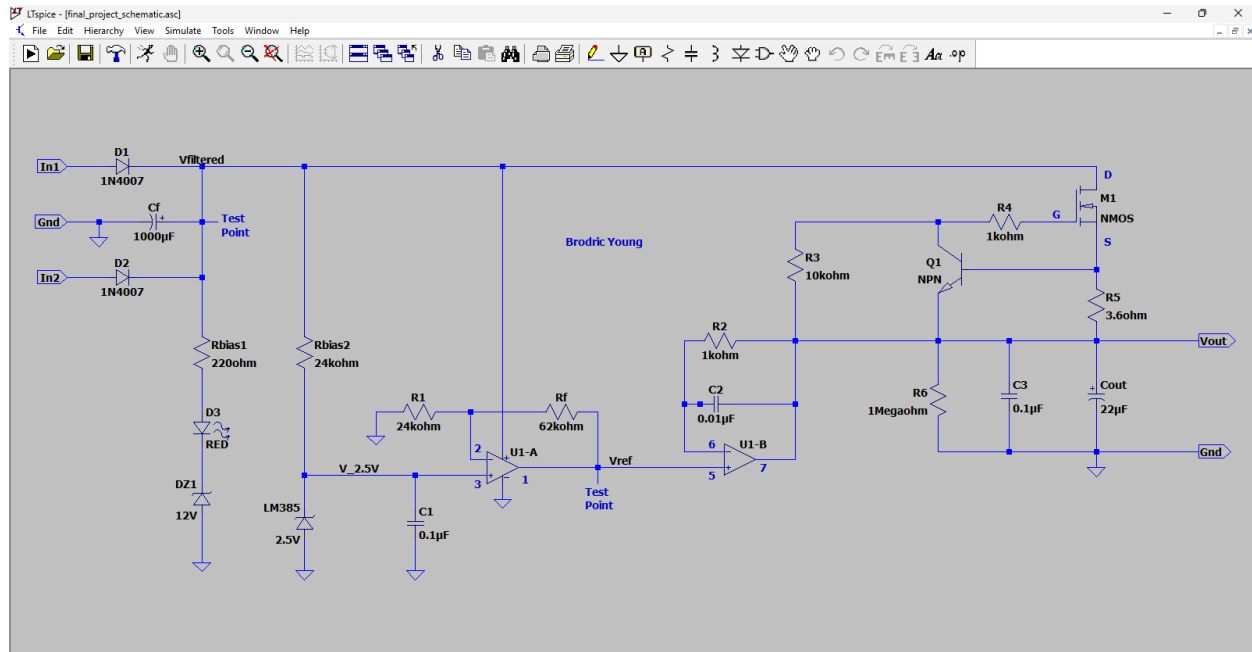

Figure 4: Schematic Diagram of the DC Output Power Supply.
2. Put together an overall LTspice schematic like the one shown below in **Figure 4**, with component values for R_5 , R_{bias2} , R_1 , R_f and C_f to be determined.
An ideal voltage source provides a specific output voltage regardless of what is connected to the output terminals. Practical voltage sources often include built-in current limits to protect components from overheating during accidental load faults. Practical DC voltage sources are also called voltage regulators and approximate an ideal voltage source by maintaining a constant output voltage over a wide range of load current values. The ECEN 350 power supply project implements a voltage regulator by means of an n-channel enhancement mode MOSFET transistor and current limit. While many existing IC (Integrated Circuit) voltage regulators exist, constructing one from basic building blocks provides insights into the design and construction of these circuits. **Figure 4** below illustrates the complete schematic of the DC Output Power Supply Project. You need to include your version of the **Figure 4** schematic in your project report. **You don't need to include the test points, op-amp pin numbers, or Drain, Gate and Source labels shown in Figure 4 for your power supply schematic but do need to include your name on your overall LTspice schematic of your DC Output Power supply included in your final report, using the Text option available in the Edit pull-down menu.**
Referring to **Figure 4**, the inputs **In1**, **In2** and **Gnd** are to be connected to either an AC or DC voltage source to power the overall circuit. The output voltage **V_{out}** is the regulated DC output voltage to which external loads are to be attached. The **V_{ref}** voltage is derived from the constant 2.5 V across the LM385 Voltage Reference diode, shown in the figure below. While the LM385 2.5 V voltage reference is shown as a Zener diode, the LM385 actually consists of several transistors and provides a more accurate reference voltage than can be obtained from a simple Zener diode. Dual op-amp consists of op-amp U1-A, used in the
Since the output voltage of the voltage regulator illustrated in **Figure 4**, can only source current to the load, resistor R6 is included to sink the small leakage currents from M1, that otherwise could cause the output voltage to increase beyond the desired output voltage when not connected to an external load.
The voltage reference portion of the power supply illustrated in **Figure 4** consists of an LM385-2.5, 2.5 V voltage regulator along with bias resistor R_{bias2}. This resistor should be chosen to provide a reverse breakdown current through the LM385-2.5 voltage regulator ranging from 100 μ A to 1 mA. For this power supply, assume that the input voltage range for proper operation is 12 to 21 V. Hence, you can determine an acceptable resistance range for R_{bias2} and then choose an appropriate standard 5% resistor within that range. For the DC Output Power Supply Calculations Summary you are to calculate the maximum I_{Rbias2} value corresponding to your chosen R_{bias2} value.
Referring to **Figure 4**, components R_{bias1}, D3, along with Zener diode DZ1 comprise the red LED power on indicator. This power indicator provides a visual indication of when the input voltage is sufficient to turn on the power supply is present.